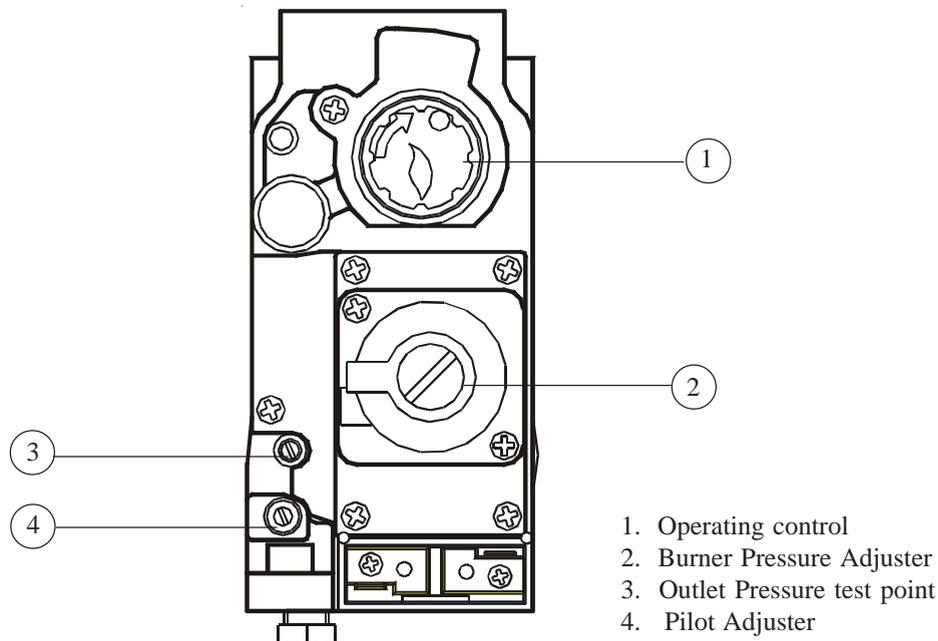

Fig. 4
- 6.3.2 On the Multifunctional Control, remove the Outlet Pressure test point cover, and fit a pressure test gauge (refer Fig. 4).
- 6.3.4 Referring to Fig .4, press and hold the OPERATING CONTROL, and whilst observing the Pilot Burner, repeatedly press Piezo igniter button until Pilot Burner ignites.
- 6.4.1 Referring to Table 4 and Fig. 4 below, ensure that the pressure test gauge indicates the correct burner pressure, resetting if required as follows: